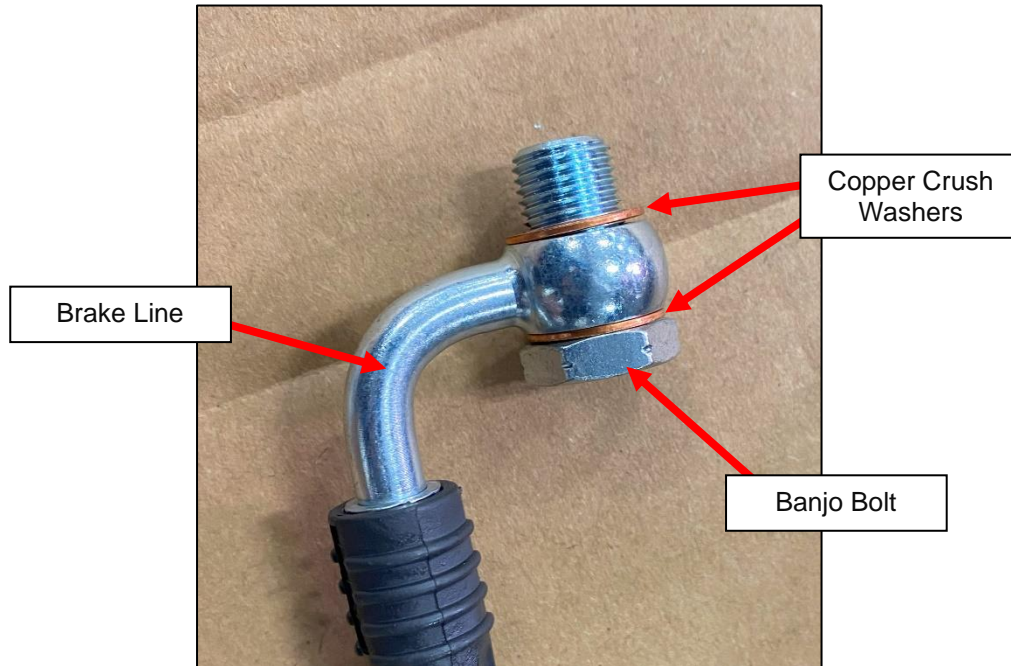

Figure 11
15. Locate (1) one Stainless Steel Brake Line, (1) one Banjo Bolt, and (2) two Copper Crush Washers. Place a Copper Crush Washer on the Banjo Bolt and insert it through the bottom of the Brake Line, and place another Copper Crush Washer on top. *Figure 11.*